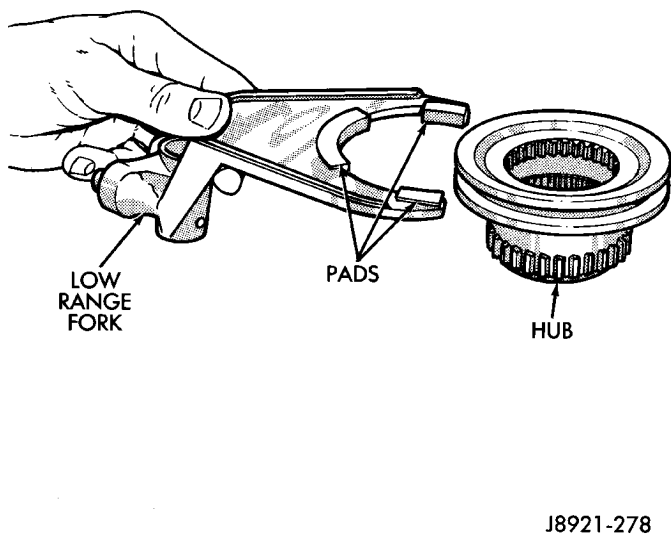

Fig. 69 Assembling Low Range Fork And Hub
- (2) Install shift sector.
(3) Install new pads on low range fork, if necessary, (Fig. 69).
(4) Assemble low range fork and hub (Fig. 69).